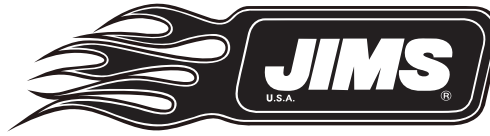

FIGURE 1
4. Fasten drill plate, JIMS® No.8357 to the top of the trap door flange using old and new speed sensor mounting screws as shown in *Figure 1*.
3. Mark the inside exposed portion of the flange as shown in *Figure 1*. The material to be removed is .060 wide by 1.80 Deep. Remove top cover screws and gasket.
4. With a die grinder tool, remove the casting rib until it is the same height as the adjacent surface area. Clean the top cover of all loose material, including screw holes as shown in *Figure 1*.